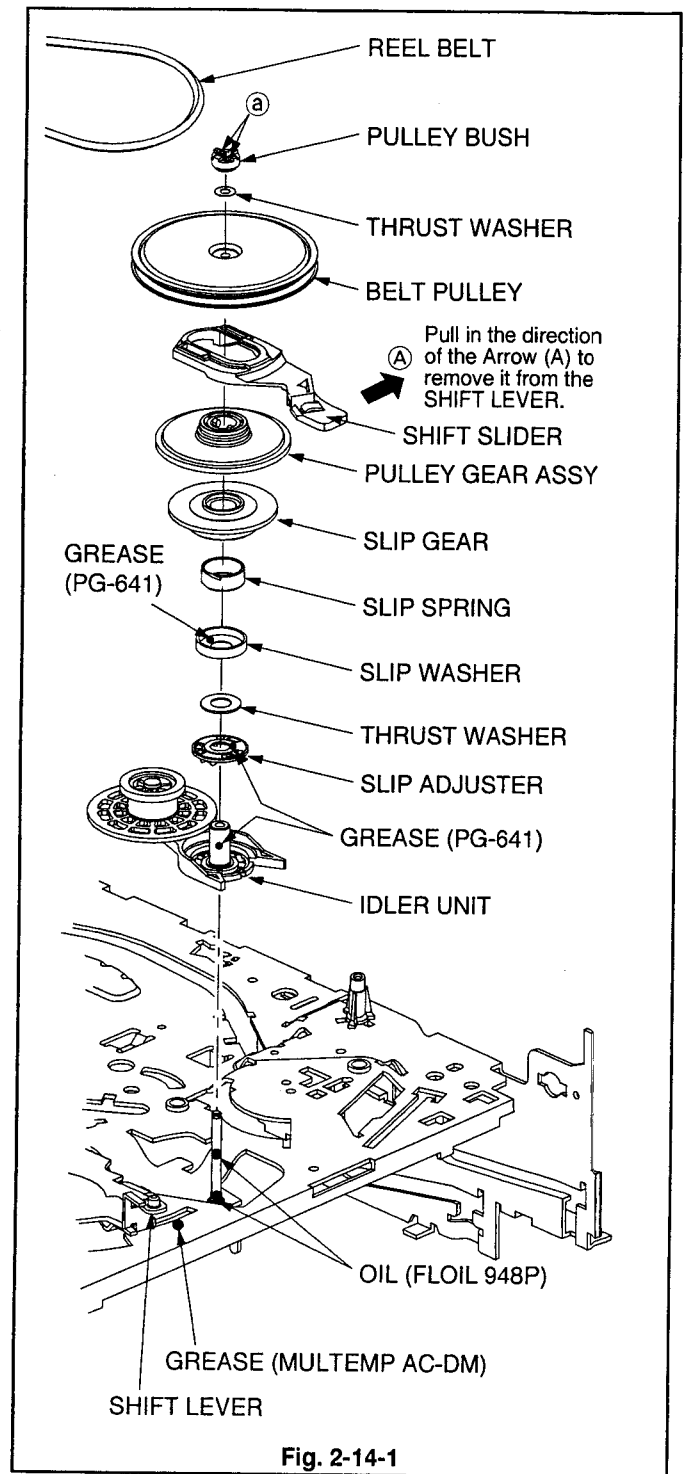

Fig. 2-14-1
1. Remove the REEL BELT shown in the Fig. 2-14-1.
2. Move the SHIFT SLIDER in the Fig. 2-14-1 in the direction shown of the arrow (A) to remove the SHIFT SLIDER from the SHIFT LEVER.
3. Release the two catches (a) of the PULLEY BUSH shown in the Fig. 2-14-1 to remove the PULLEY BUSH.
4. Remove the units from the THRUST WASHER to IDLER UNIT shown in the Fig. 2-14-1.
1. Apply OIL (FLOIL 948P) [859D154O20] to the SHAFT for the IDLER UNIT shown in the Fig. 2-14-1.
2. Apply GREASE (PG-641) [859D055O30] to the parts on the IDLER UNIT specified in the Fig. 2-14-1.
3. Apply GREASE (MULTEMP AC-DM) [859D055O90] to the parts on the MAIN PLATE ASSY specified in the Fig. 2-14-1.
7. Install the IDLER UNIT shown in the Fig. 2-14-1.
9. Install the units from the SLIP WASHER to REEL BELT shown in the Fig. 2-14-1.
10. Install the SHIFT SLIDER to the SHIFT LEVER shown in the Fig. 2-14-1.